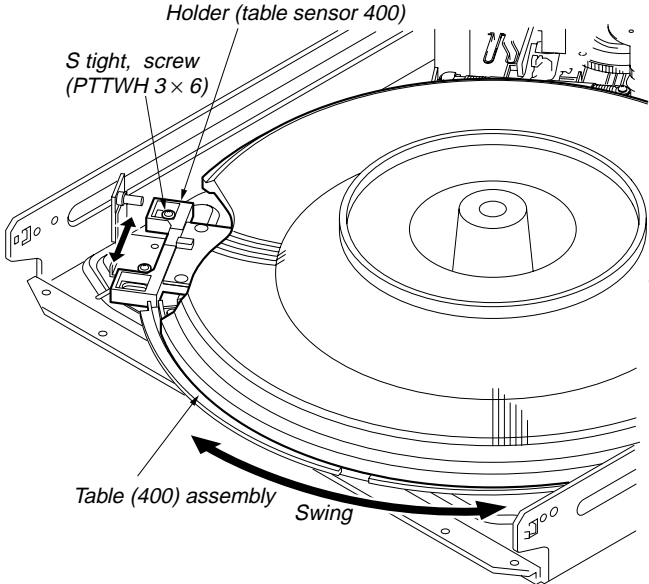

Fig. 3
2. Moving the T. table right and left with a hand after the screw is fixed, the table will move by the play of the T. table. If the LEDs light up alternately, the adjustment will be performed correctly. (Fig. 3)